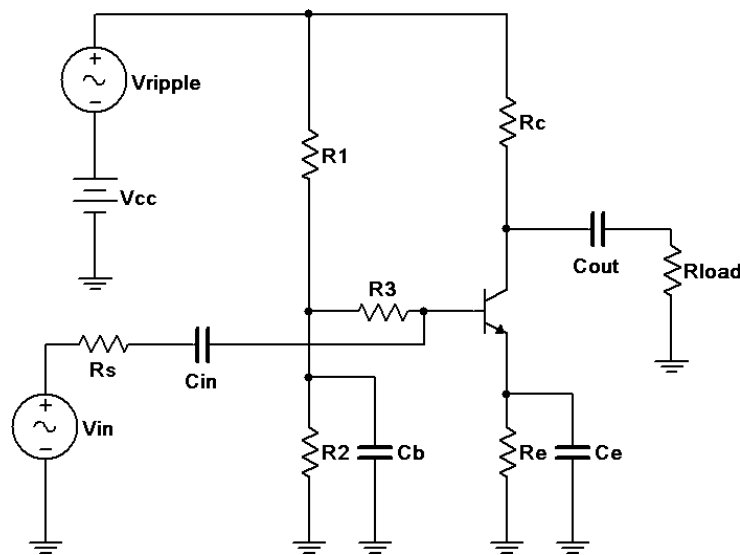

Figure 2
12. One issue with amplifiers is noise and ripple on the power supply. This will be directly coupled to output of the circuit via the collector resistor. Worse, this noise or ripple may be coupled into the base and then amplified along with the desired input signal. This can be an issue with amplifiers that use a voltage divider bias. One way to reduce this effect is to decouple the voltage divider from the base. This modification is shown in the circuit of Figure 2.  $C_b$  effectively shorts  $R_2$ , sending power supply noise and ripple to ground instead of into the base. By itself this would also short the desired input signal so an extra resistor,  $R_3$  is added between the capacitor and the base. The input impedance of the circuit is approximately equal to  $R_3$  in parallel with  $\beta r'_e$ . To show the effectiveness of this technique, build the circuit of Figure 2 in a simulator. Use values of  $V_{in} = 20$  mV peak at 1 kHz,  $V_{ripple} = 20$  mV peak at 120 Hz,  $V_{cc} = 12$  volts,  $R_s = 1$  k $\Omega$ ,  $R_1 = 10$  k $\Omega$ ,  $R_2 = 3.3$  k $\Omega$ ,  $R_3 = 22$  k $\Omega$ ,  $R_e = 4.7$  k $\Omega$ ,  $R_c = 3.3$  k $\Omega$ ,  $R_{load} = 1$  k $\Omega$ ,  $C_{in} = C_{out} = 10$   $\mu$ F,  $C_b = 100$   $\mu$ F and  $C_e = 470$   $\mu$ F. Run a Transient simulation and look at the load voltage. A very small low frequency variation should be noted. This is the 120 Hz ripple coupled in through the collector resistor. Alter the circuit by removing  $C_b$  and  $R_3$  to produce the basic voltage divider circuit (or more simply, set  $C_b$  and  $R_3$  to extremely small values such as pF and m $\Omega$ ). Rerun the simulation. The load voltage should now show a much more obvious ripple contribution, thus showing how effective the power supply decoupling components can be.